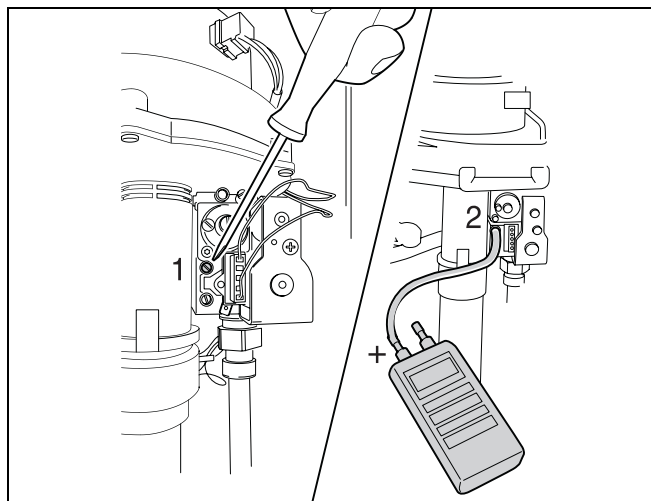

fig. 44 Check the gas/air ratio
- Open the top measuring nipple (see fig. 44, item 1) with two turns.
- Connect a tube from the "+" side of the pressure gauge to burner-pressure testing nipple (see fig. 44, item 2)